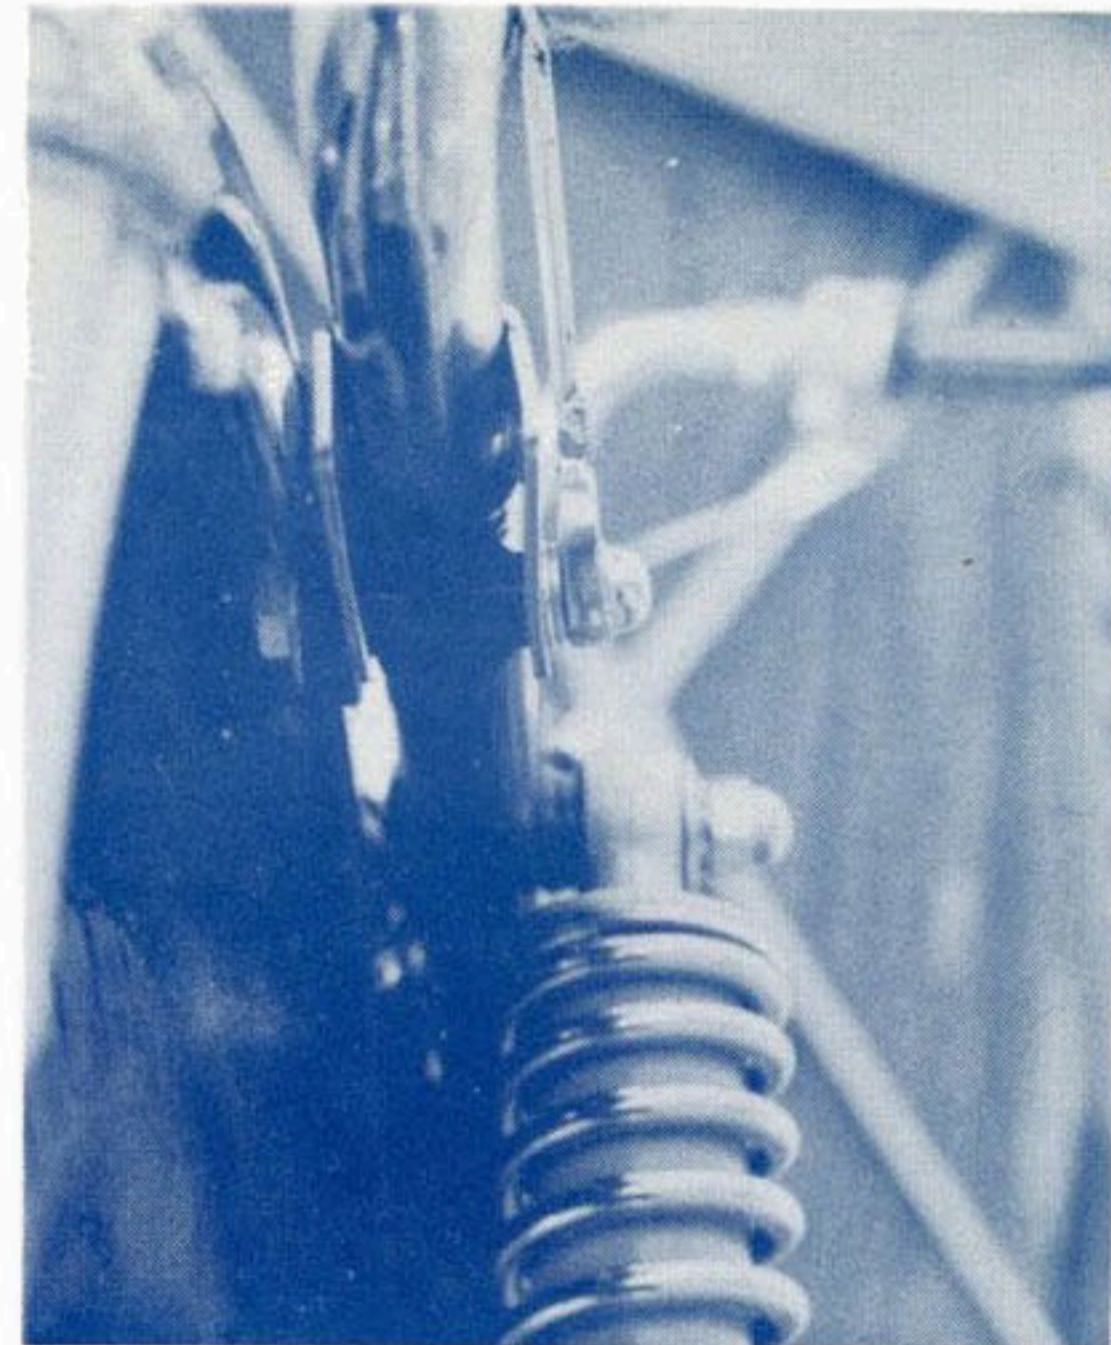

Fig. 20
1. Unscrew and take off 8 x 45 hex head bolt and 8 x 50 hex head bolt. Insert rear fender stay into frame pipe end. Fit rear fender stay together with frame handle and rear fender as shown in fig. 20, 21.